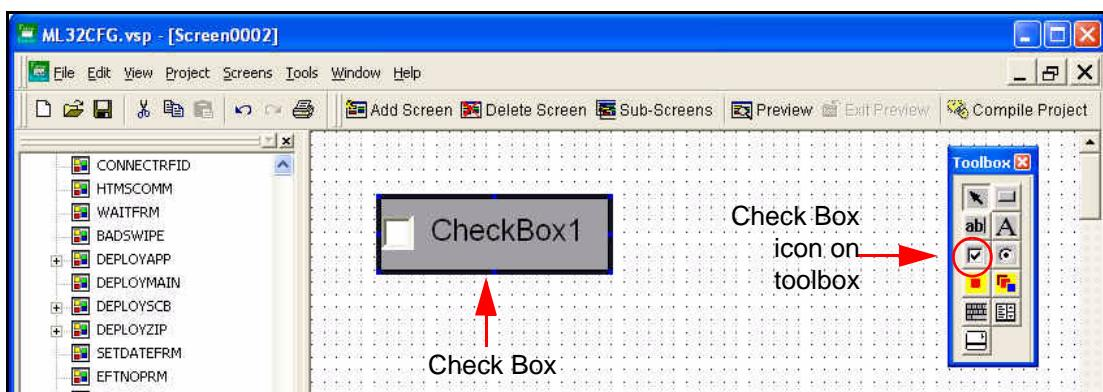

Figure 2-22 *Check Box*
- Click the **Check Box** icon on the toolbox as shown in Figure 2-22.